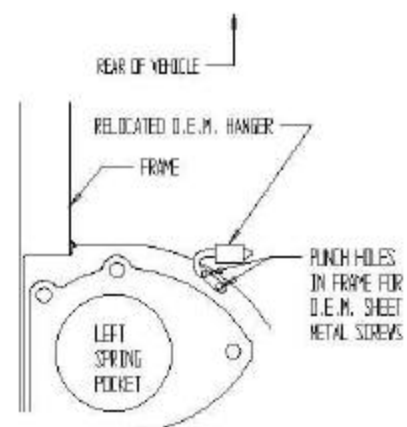

FIGURE 2
9. Slide OEM hanger assembly removed earlier on to the left tailpipe hanger assembly (see figure 2). Punch holes for sheet metal screws and screw in the OEM hanger assembly with OEM sheet metal screws. Hole an drilled so as to reduce chance that screws will work loose.